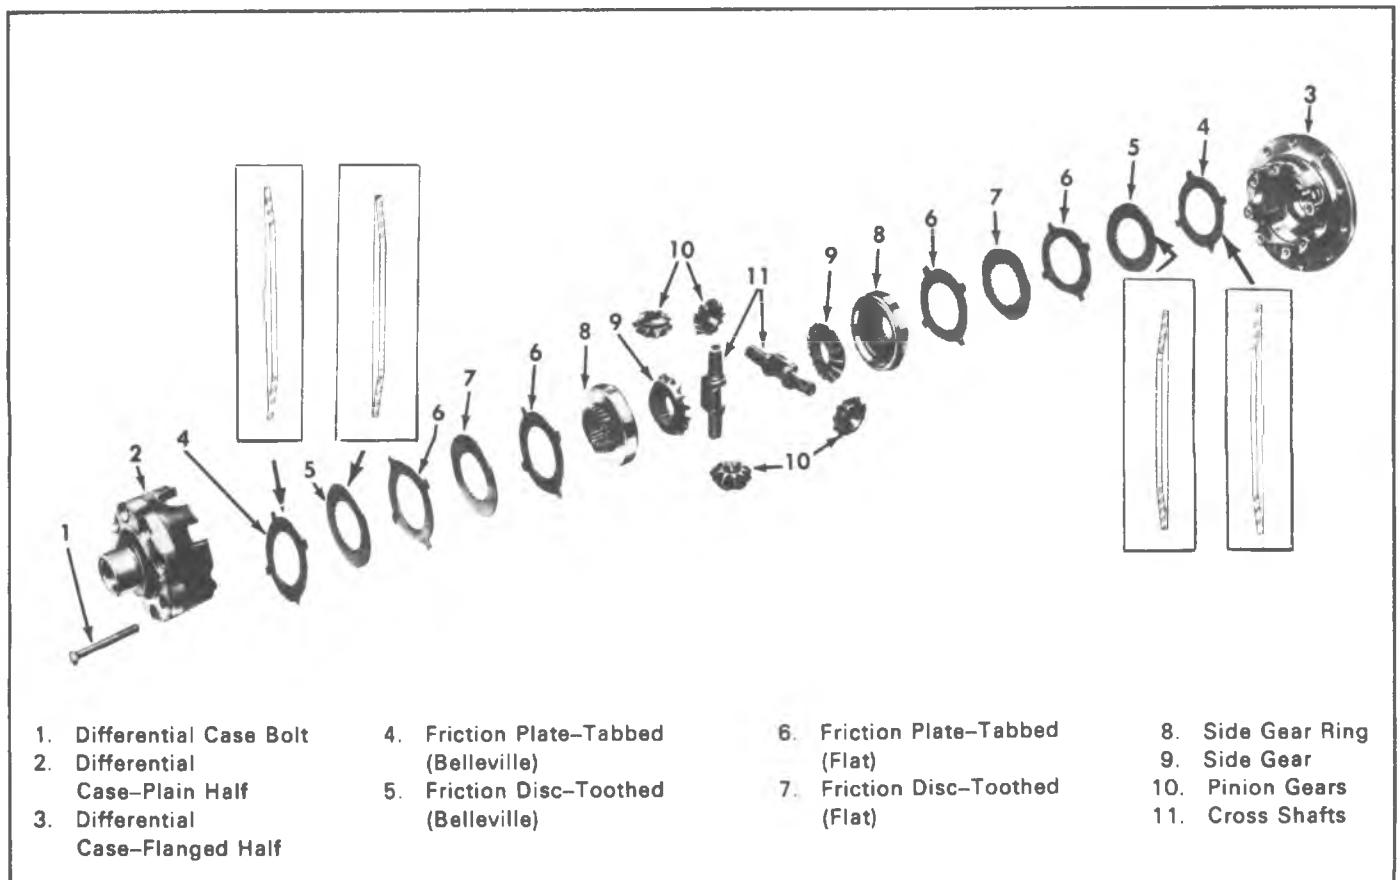

Fig. 17D—Power-Lok Differential
The Power-Lok differential shown in Figure 17D is a unit which is installed as optional equipment in place of the standard differential. The locking differential permits the major driving force to be transmitted to the wheel with better traction. This means that the vehicle can be operated on ice, snow, sand or under other adverse conditions with a minimum amount of slippage through one wheel.
NOTE: A series of clutch plates and dished (Belleville) friction plates on each side of differential side gears transmits drive from differential case to axle shafts. Carefully observe the order in which the plates are used, since they must be replaced in the same order. Refer to Figure 17D.
1. Place tabbed Belleville friction plate (4) in flanged differential case, being extremely careful that convex (bulged) side is toward the side gear. See Figure 17D.
2. Assemble remaining plates and discs to splines of side gear ring, being sure they are assembled in the same order of removal. The convex (bulged) side of the Belleville friction disc (5) should be toward the side gear and it should nest into the Belleville friction plate (4).
5. In the order listed install the following: (1) side gear, (2) side gear ring, (3) flat plate with tabs, (4) flat disc with teeth, (5) flat plate with tabs, (6) Belleville disc with convex (bulged) side up, or toward side gear, (7) Belleville plate, with convex (bulged) side up, or side toward gear.